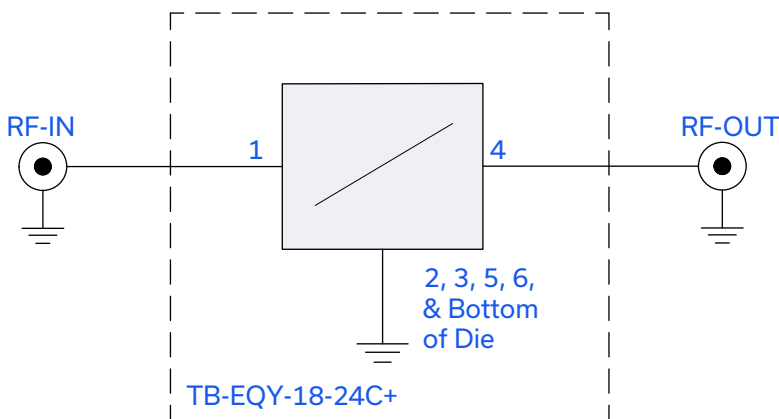

Fig 1. Characterization & Application Circuit
1. Die is soldered in a 16L 3x3mm package and measured on Mini-Circuits Characterization Test Board TB-EQY-18-24C+. See Characterization & Application Circuit (Fig.1).